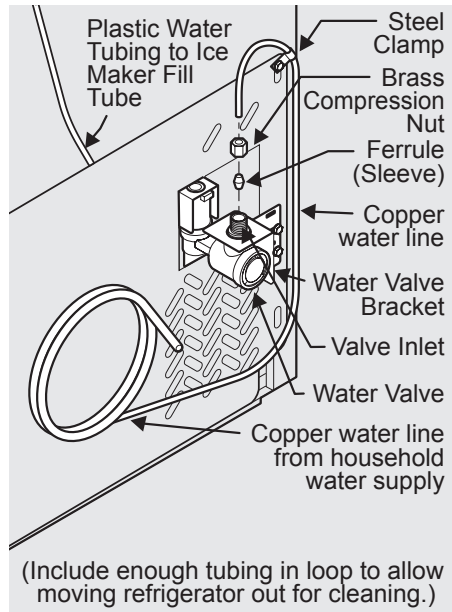

Figure 1
- 4 If you use copper tubing - Slide brass compression nut, then ferrule (sleeve) onto water supply line. Push water supply line into water valve inlet as far as it will go ($\frac{1}{4}$ inch/6.4 mm). Slide ferrule (sleeve) into valve inlet and finger tighten compression nut onto valve. Tighten another half turn with a wrench; DO NOT over tighten. See Figure 1. If you use braided flexible stainless steel tubing - The nut is already assembled on the tubing. Slide nut onto valve inlet and finger tighten nut onto valve. Tighten another half turn with a wrench; DO NOT over tighten. See Figure 2.